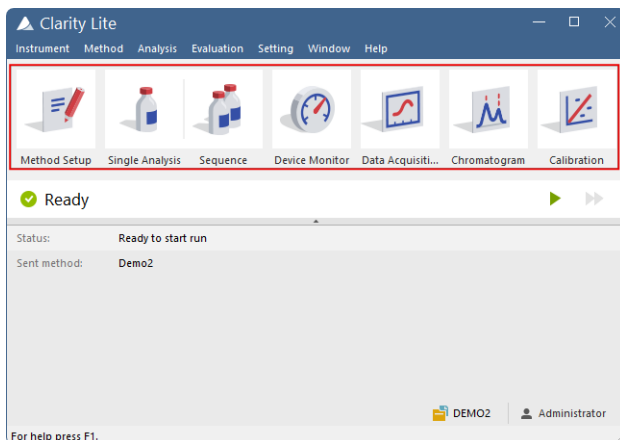

Fig. 9: Clarity Lite window
Fig. 9 on pg. **13**. shows the most important icons in the *Clarity Lite* window. During the tour, we will review all windows belonging to these icons.
- After the parameter setup, you can run the analysis by clicking the **Run** button ⑦. The **Single Analysis** dialog will close now. If you open it again, you will see three additional buttons (**Stop**, **Abort**, **Snapshot**) that will allow you to stop or abort the analysis or take snapshots (see the chapter "**Data Acquisition window**" on pg. 15.).
- In the **Clarity Lite** window look at the **Status line** (see **Fig. 9** on pg. 13.). The acquisition is now signaled by the **RUNNING** state and the actual run time is shown there.
- To see the data acquisition in process and control it if necessary, click the **Data Acquisition**  icon (see **Fig. 9** on pg. 13.) to open the **Data Acquisition** window.
- Depending on your Instrument's configuration, one or more signals may be displayed. The number of detectors (signals) and their names can be seen in the upper right corner of the graph ①.